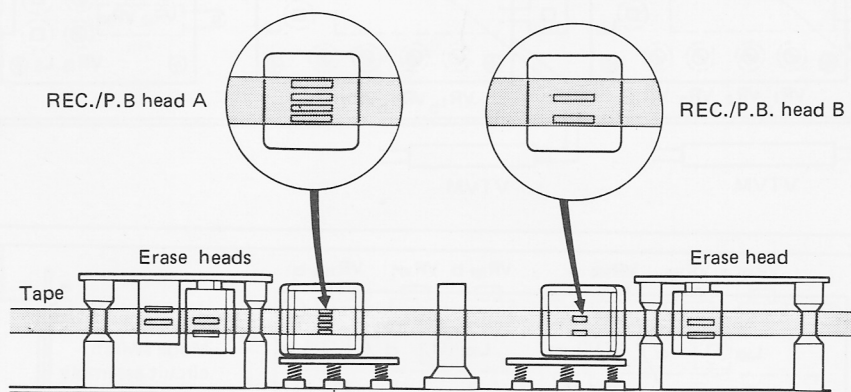

Fig. 18
2. Distances between the tape edges and the outer edges of track 1 and 4, respectively, should be exactly equal (Fig. 18).